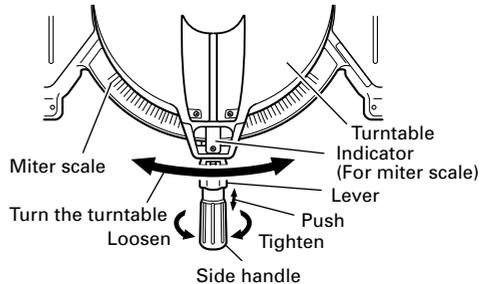

Fig. 15
- (1) Loosen the side handle and push the lever for angle stoppers. Then, adjust the turntable until the indicator aligns with desired setting on the miter scale (Fig. 15).
- (2) Re-tighten the side handle to secure the turntable in the desired position.